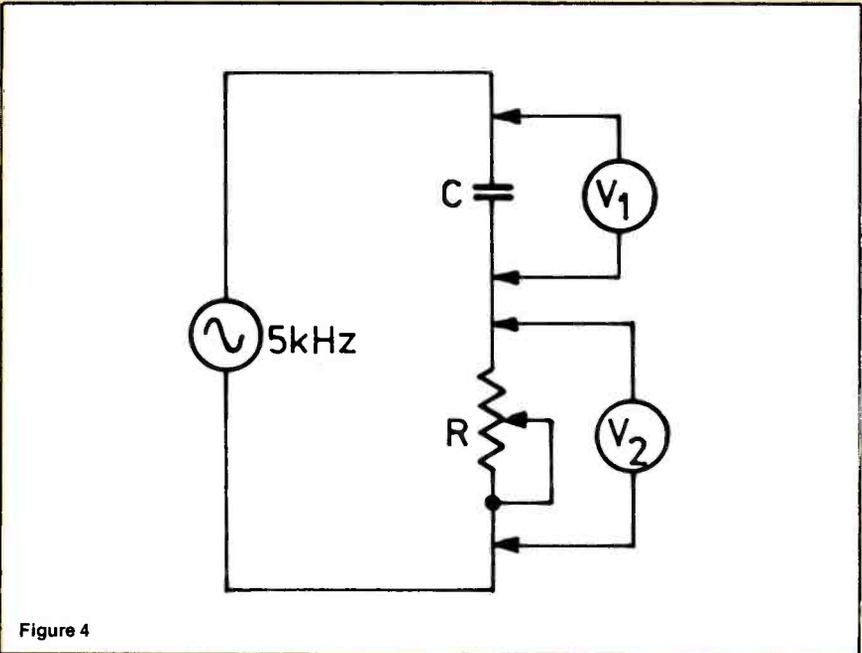

Figure 4
4. The test setup of Figure 4 is used for measuring the capacity of C. (In the CET test the term capacitance is sometimes used instead of capacity.) When $V_1 = V_2$,